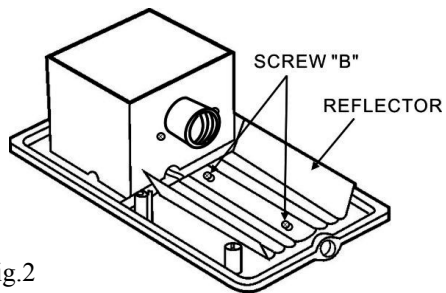

Fig.2
- 2. REMOVE REFLECTOR (Fig. 2)**